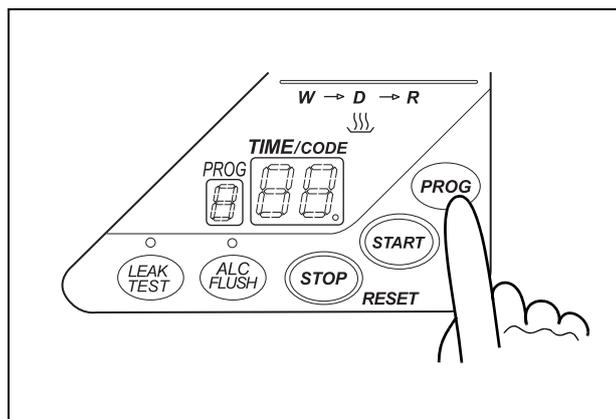

Figure 7.38
3. Press the PROG button on the main control panel to select a program [1] to [3] (see Figure 7.38).